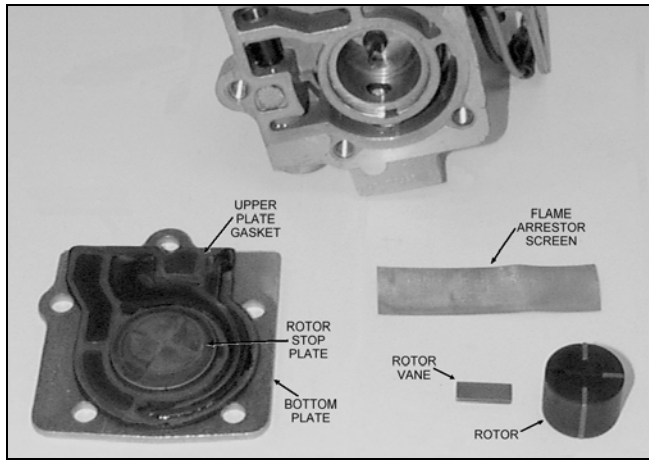

Figure 6
4. Remove the flame arrester (note the position of the screen). Remove the rotor vanes and rotor by inverting the pump. Lay all pieces on a flat clean surface. See Figure 6.